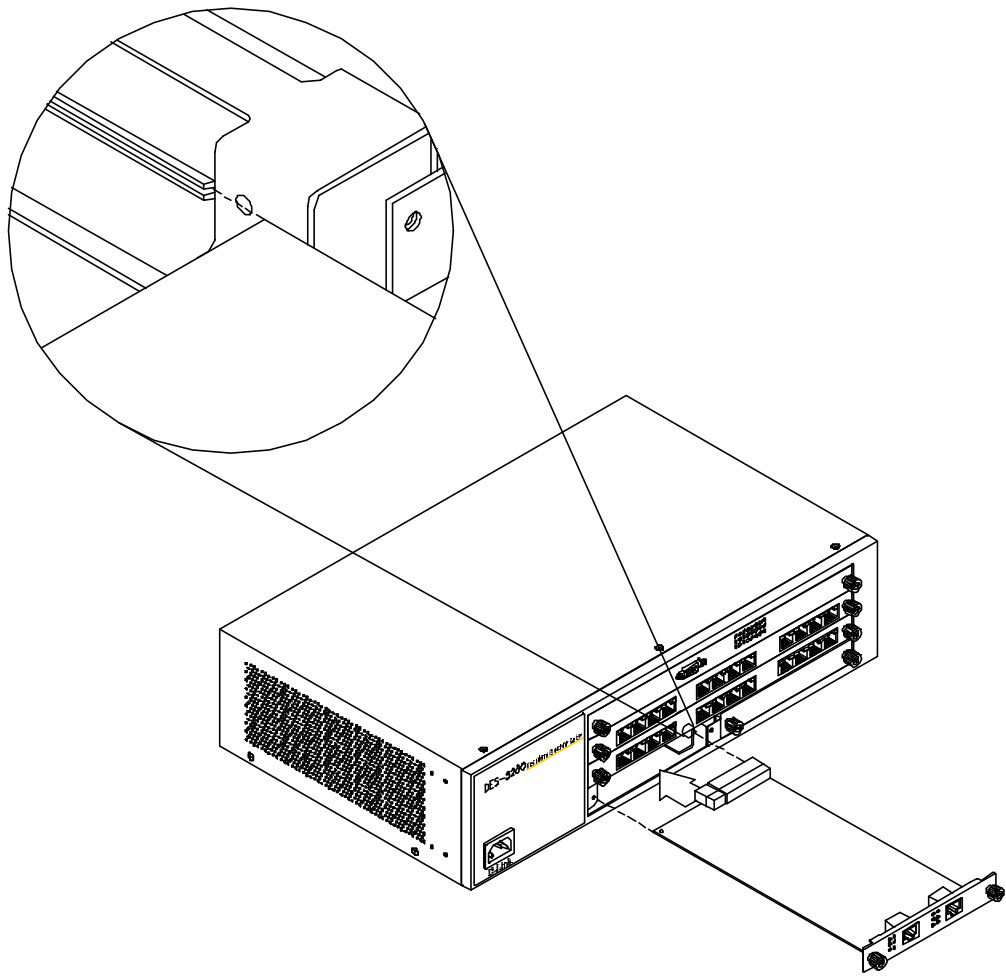

Figure 10: Insert Optional Module
3. Install the new module by inserting it into the guides, see Figure 10 and sliding it in until it stops. Press in firmly until you feel the module snap into place. The module should be level and flush with the rest of the DES-5200. Never force, twist or bend the module. The module slides in smoothly.